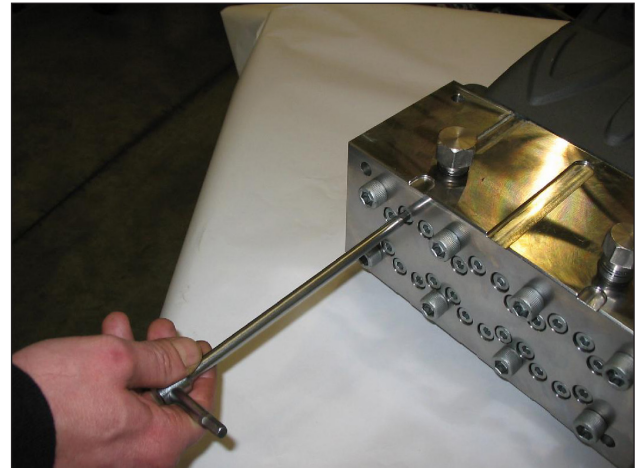

Fig. 34
- Loosen but do not remove the M8x100 screws fastening the liners to the head, as shown in Fig. 34, so as to free them.